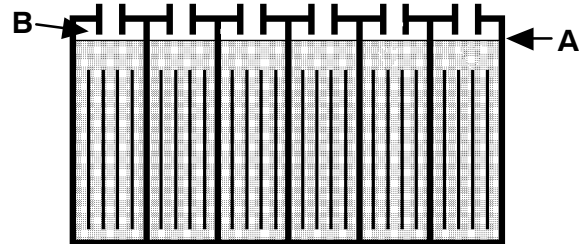

FIG. 25
2. Each week **after** charging, check fluid level (A) in each battery cell of all batteries. The level should be 1cm from bottom of sight tubes (B). If needed, add just enough distilled water to raise level 1cm from bottom of sight tubes. **DO NOT** overfill (Figure 25).